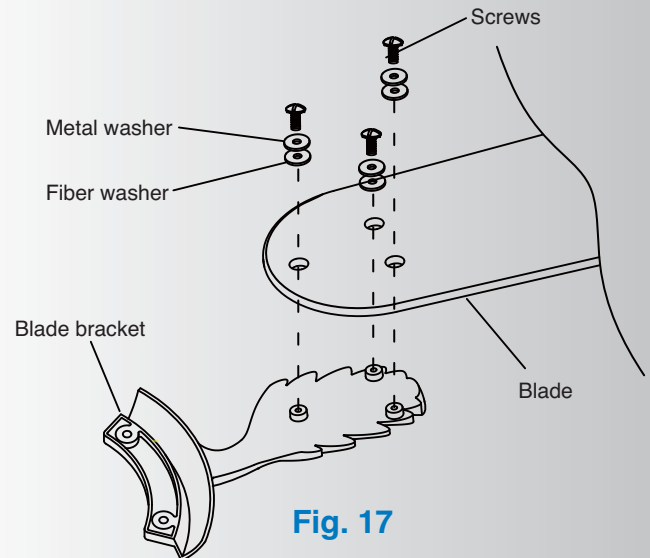

Fig. 17
Step 1. Attach the blade to the blade bracket using the screws, washers and fiber washers provided. Refer to Fig. 17 as needed. Start each screw into the bracket. Repeat for the two (2) remaining screws.